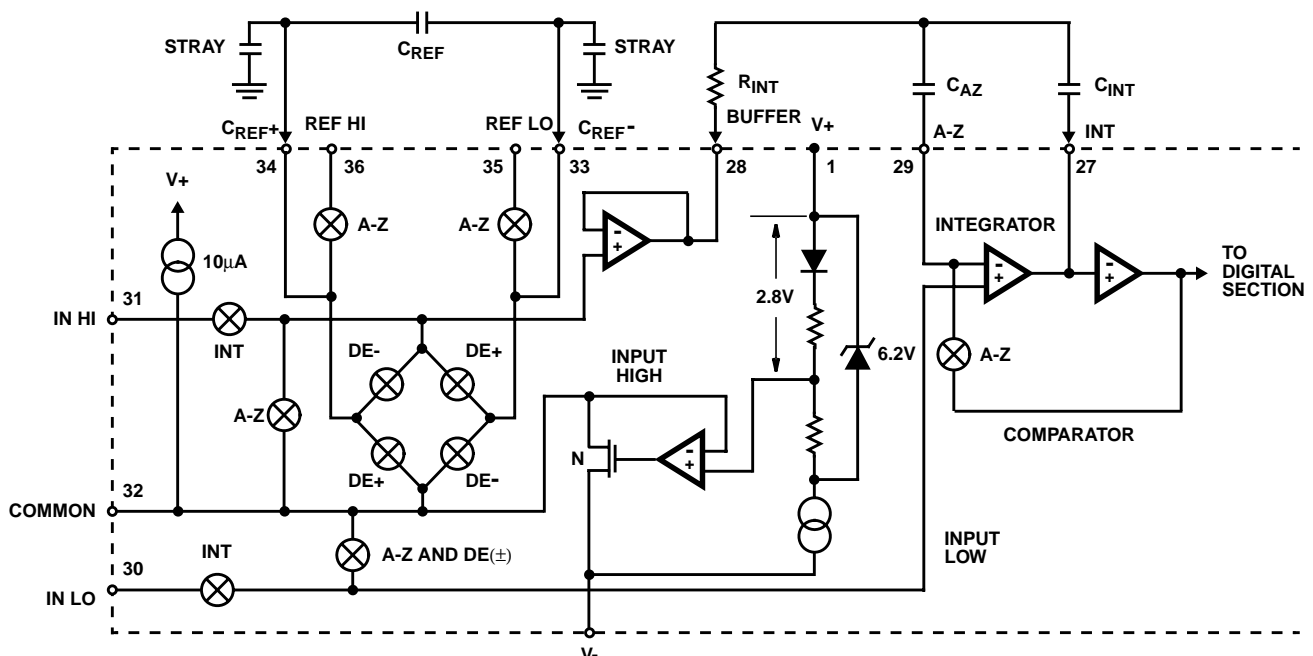

FIGURE 3. ANALOG SECTION OF
Figure 3 shows the Analog Section for the 7107. Each measurement cycle is divided into three phases. They are (1) auto-zero (A-Z), (2) signal integrate (INT) and (3) de-integrate (DE).